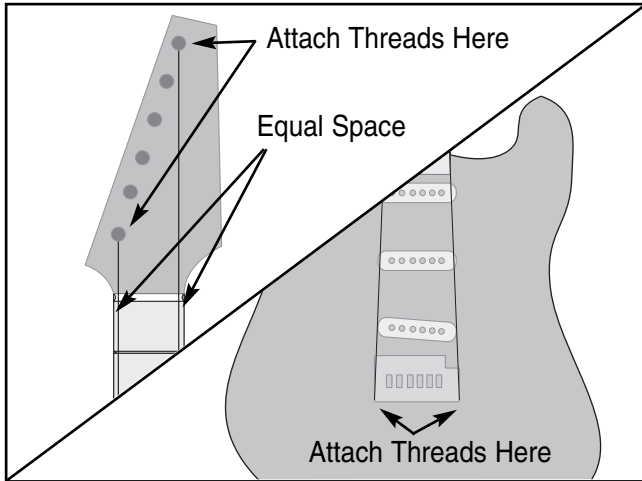

Figure 20. Checking neck alignment with tremolo bridge.
4. Adjust the tremolo bridge so there is an equal amount of space between the fingerboard edges and the threads (**Figure 20**).